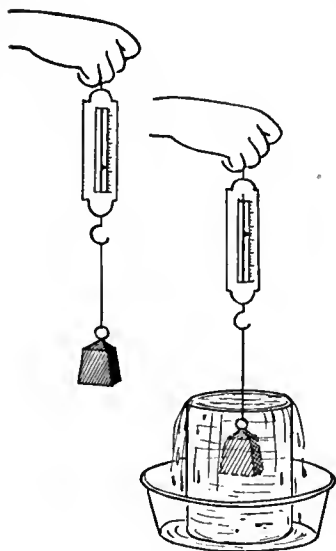

FIG. 504
a) Secure a container such as the one shown in Figure 504 which may be used as an overflow can. Also secure a small basin which may be used to catch any overflow water, and a spring balance. Carefully weigh the catch basin and record its weight. Weigh a piece of iron in air and record its weight. Fill the overflow can as full of water as possible and lower the iron weight suspended from the balance into the can. Read the balance and record the weight of the iron in water. Weigh the catch basin and water and record their combined weight. Calculate the difference of weight of the iron in air and in